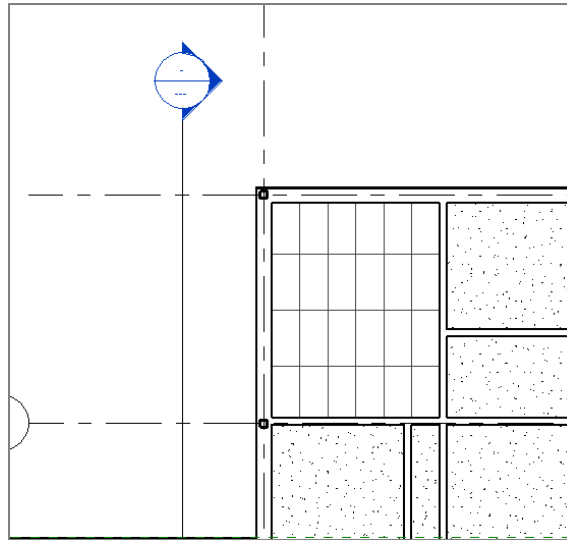

FIGURE 9.4: Placing the 2×4 tiled ceiling
5. When you see the red outline, pick a point in the middle of the room. Your ceiling should now look like Figure 9.4.